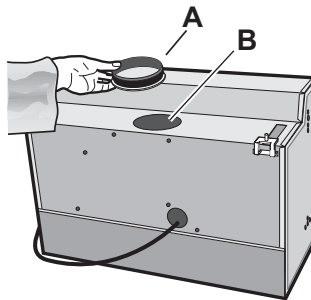

Fig. 1
- In this version fumes are extracted to the outside via a hose connected to the coupling ring **A**, placed in the outlet hole **B**. **Fig. 1**.
- The deflector **F** must be fitted over the hole **B** (**Fig. 1**) fixing it with the screw provided. **Fig. 5.**